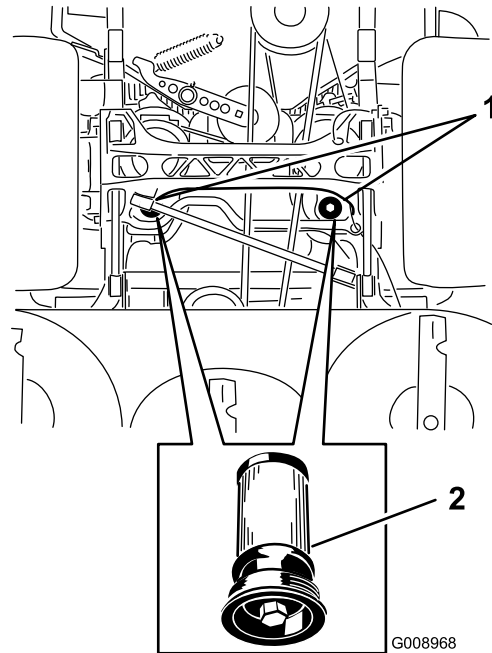

Figure 86
5. Place a drain pan under the filter, remove the old filter, and wipe the surface clean (Figure 86).
6. Apply a thin coat of hydraulic fluid to the rubber gasket on the replacement filter (Figure 86).